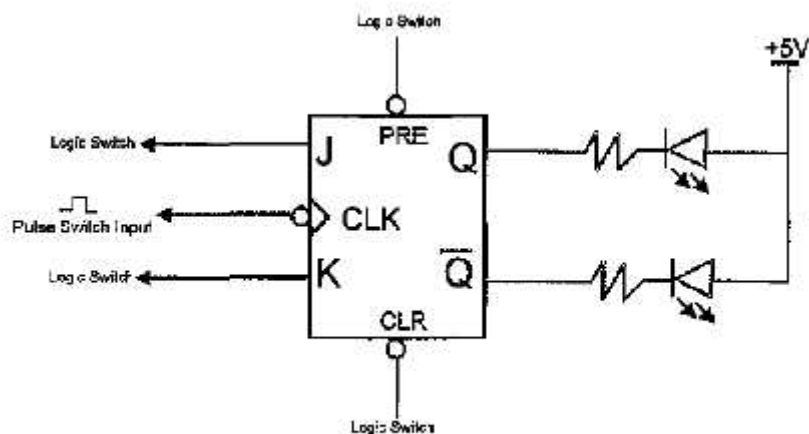

Figure 5
1. Install 7476 IC on the circuit board and make the connections as shown in Figure 5.
**Note: When recording the result at every entry make sure that the particular logic level of data inputs J and K are settled first before setting the pulse at the clock input (CP).**